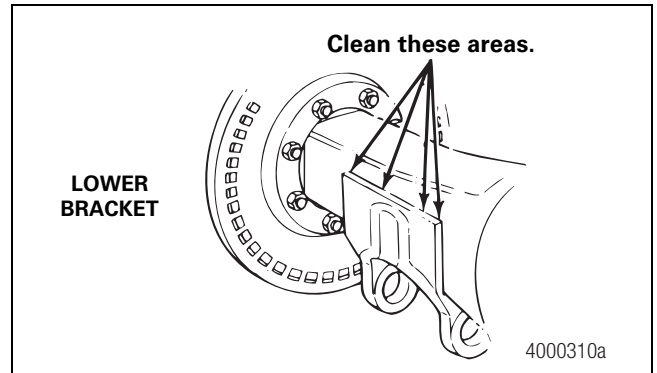
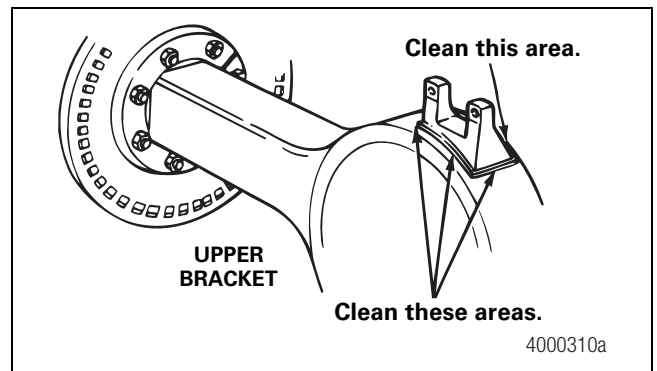

Figure 4.10
Figure 4.11
5. For suspension bracket welds, clean both lower and upper suspension brackets and the areas of the axle housing around each bracket. Use a wire brush and a cleaning solvent that will remove dirt and grease from these areas. Figure 4.10 and Figure 4.11.